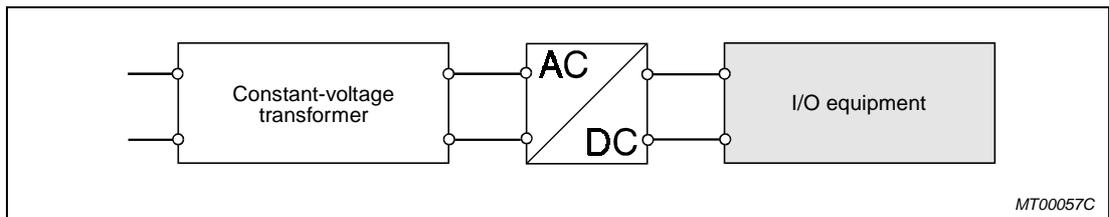

Fig. 5-14: Connection of a voltage regulator
- The MT system should be grounded as independently as possible from other equipment (see figure 5-14 on the left). Apply class 3 grounding (grounding resistance 100 Ω max.).